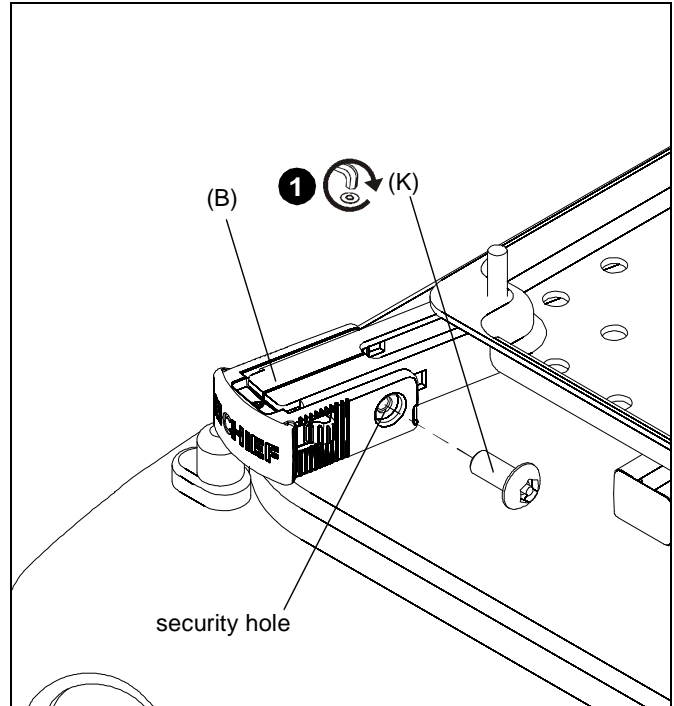

Figure 9
1. Install #8-32 x 3/8" button head security screws (K) into security holes on SLBU/SLMU legs. (See Figure 9)